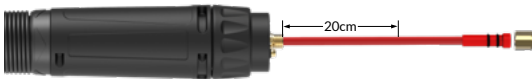

Fig 4
- Trim the excess steel liner from 0-2mm of swan neck holder's front end. (Fig 4)
- Feed in the new liner in short strokes 20cm per time. (Fig 4)